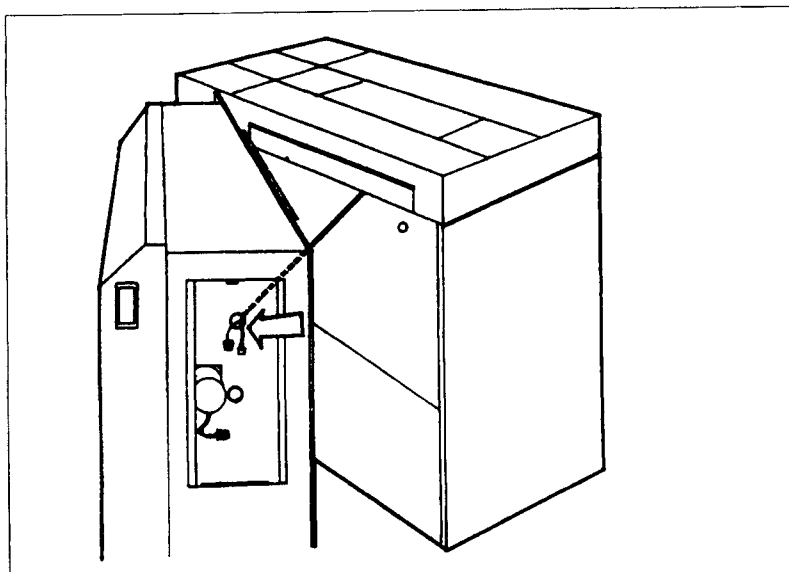

Figure 2-10. Inserting the 6-Position Cable
- d. Insert the 6-position cable that exits the printer into the top access hole in the stepper motor bulkhead (Figure 2-10).